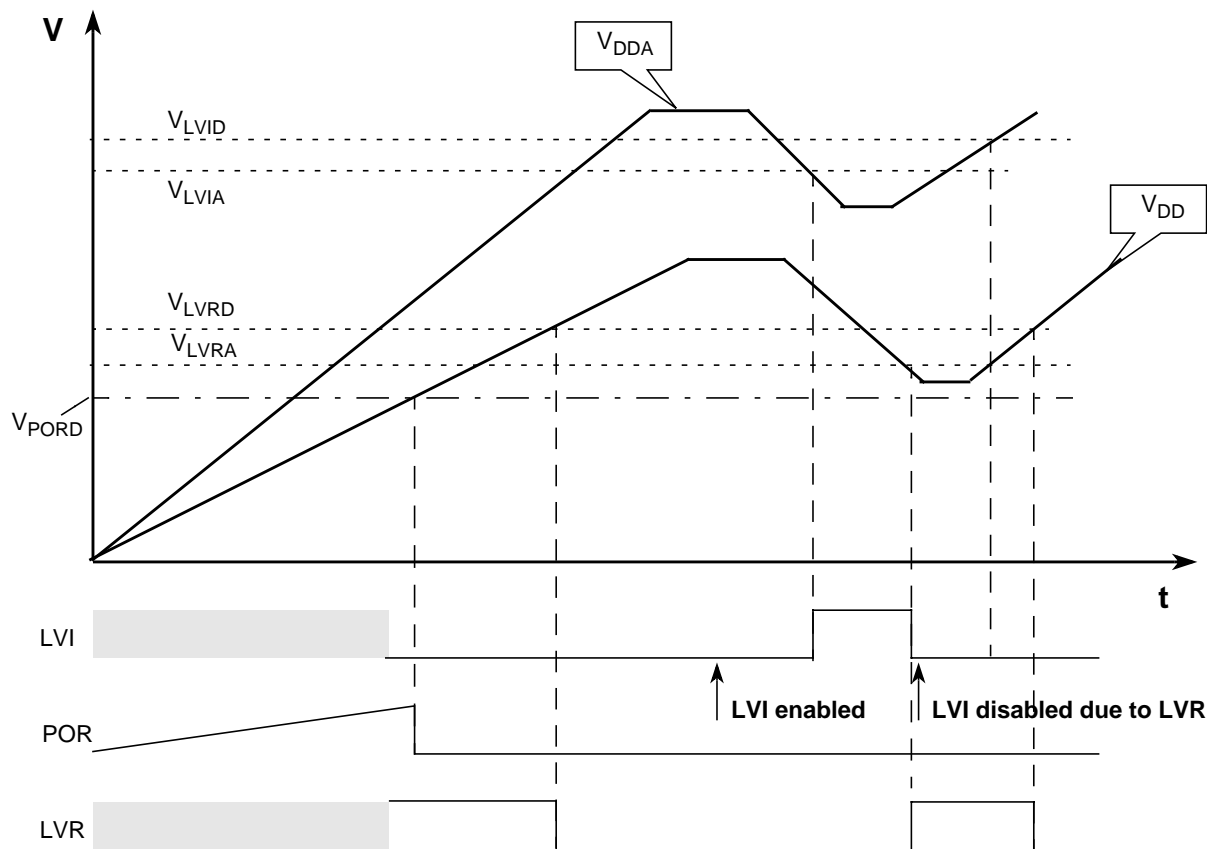

Figure A-10. Voltage Regulator — Chip Power-up and Voltage Drops (not scaled)
2. Monitors V_{DD} , active only in Full Performance Mode. MCU is monitored by the POR in RPM (see Figure A-10)
Voltage regulator sub modules LVI (low voltage interrupt), POR (power-on reset) and LVR (low voltage reset) handle chip power-up or drops of the supply voltage. Their function is described in Figure A-10.